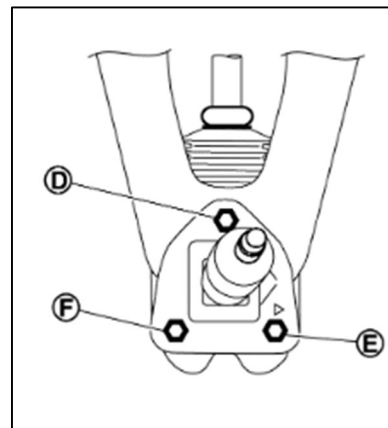

Figure 28
- Torque the Front bolt (D) shown in Figure 28 to **9.6 N•m (0.98 kg-m, 85 in-lb)**
- Torque the (2) rear bolts to **9.6 N•m (0.98 kg-m, 85 in-lb)**